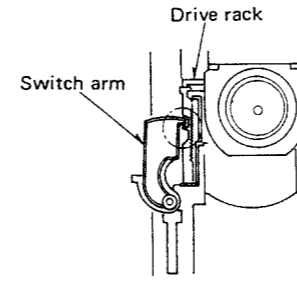

Fig. 15
6. Before fitting the disc holder, make sure that the switch arm end is on the groove side of drive rack top. (See Fig. 15)
3. When the drive rack is fitted, the switch arm end should be on the groove side of drive rack top. (See Fig. 15.)